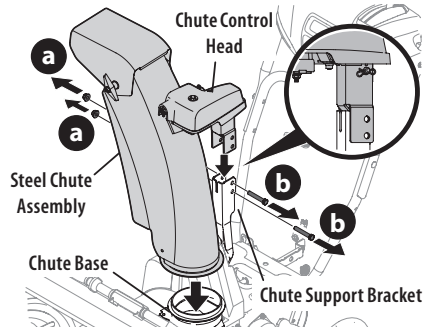

Figure 21
- Remove lock nuts (a) and hex screws (b) from chute support bracket (this will require two wrenches) (Figure 21).
- Place steel chute assembly onto chute base and chute control head onto chute support bracket (Figure 21).